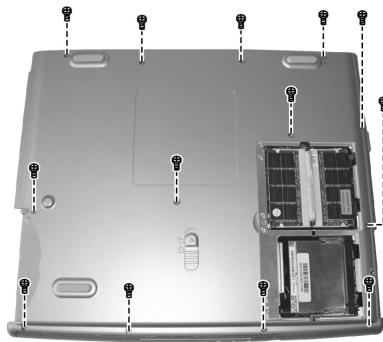

Figure 2-19
2. Remove thirteen screws on the bottom of the notebook. (Figure 2-19)